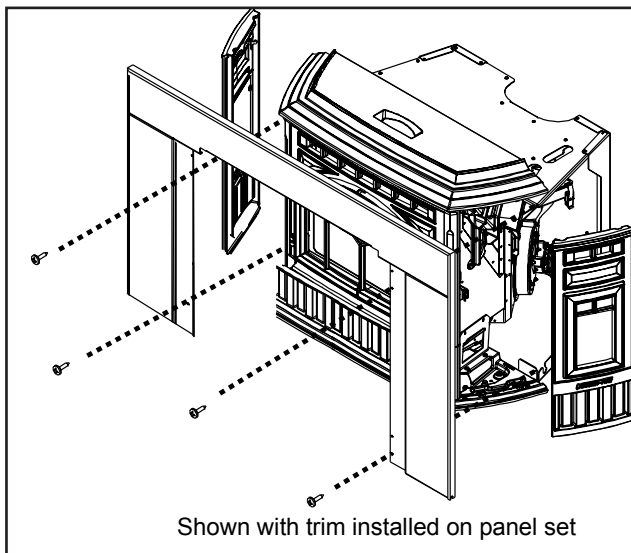

Figure 20.3
4. Carefully slide surround and trim over the top of the insert into place matching the mounting holes on the panel with the mounting holes on the insert. Secure with screws provided. **Figure 20.3**